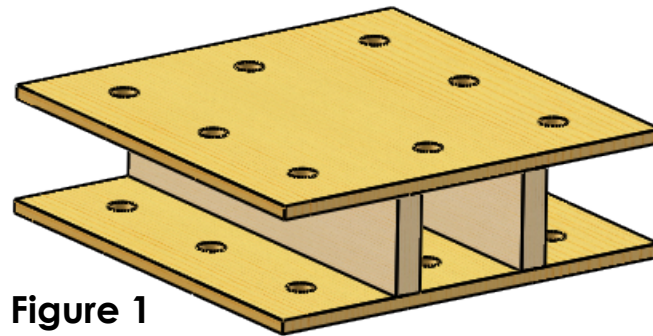

Figure 1
1. The General Contractor should work closely with the precast manufacturer to secure a template for holding the reinforcing steel dowels. The plywood or metal template is prepared by drilling holes to securely fit the diameter of the reinforcing steel bar (rebar). See Figure 1.